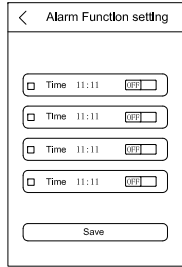

Fig.11
- Press the three-point icon at the top-right corner to set timer for the alarm function (as shown in Fig. 11). After completing the timer setting, press "Save" to save all the settings.